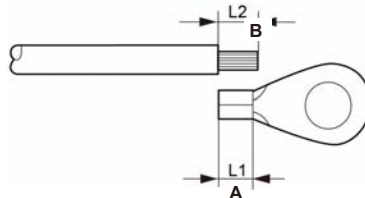

Figure 3.9 External Grounding Conductor Terminal
3. Strip the ground cable insulation to a suitable length. (see Figure 3.9)